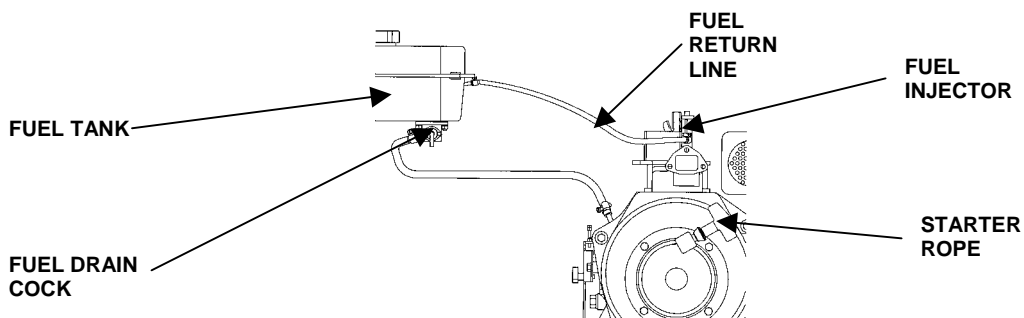

Figure 34. Engine Fuel Lines.
3. Remove the fuel return line from the fuel tank. See Figure 34.